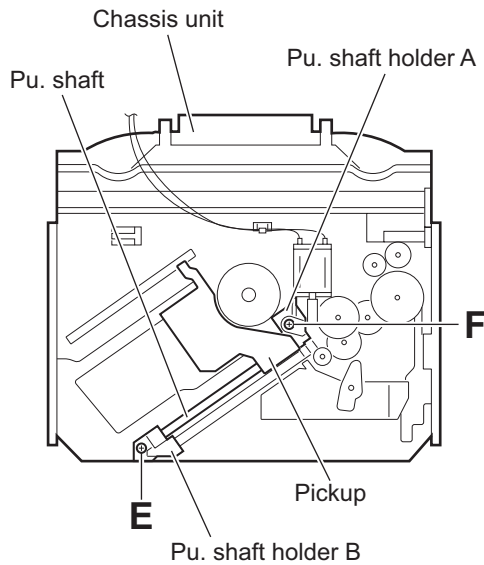

Fig.10
3.1.7 Removing the pickup (See Figs.10 to 12)
- (1) From the bottom side of the chassis unit, remove the screw **E** attaching the pu. shaft holder B and pull the pu. shaft out of the pu. shaft holder A. (See Fig.10.)
- (2) Remove the screw **F** attaching the pu. shaft holder A. (See Fig.10.)
3.1.8 Reattaching the pickup (See Figs.10 to 13)
- (4) Set the section **m** of the pickup to the rail of the chassis unit at first and attach the pickup to the chassis unit with the screw **F** as before. (See Figs.10 and 13.)
- (5) Attach the pu. shaft to the pickup as before. (See Fig.10.)
- (6) Attach the pu. shaft holder B to the chassis unit with the screw **E** as before. (See Fig.10.)